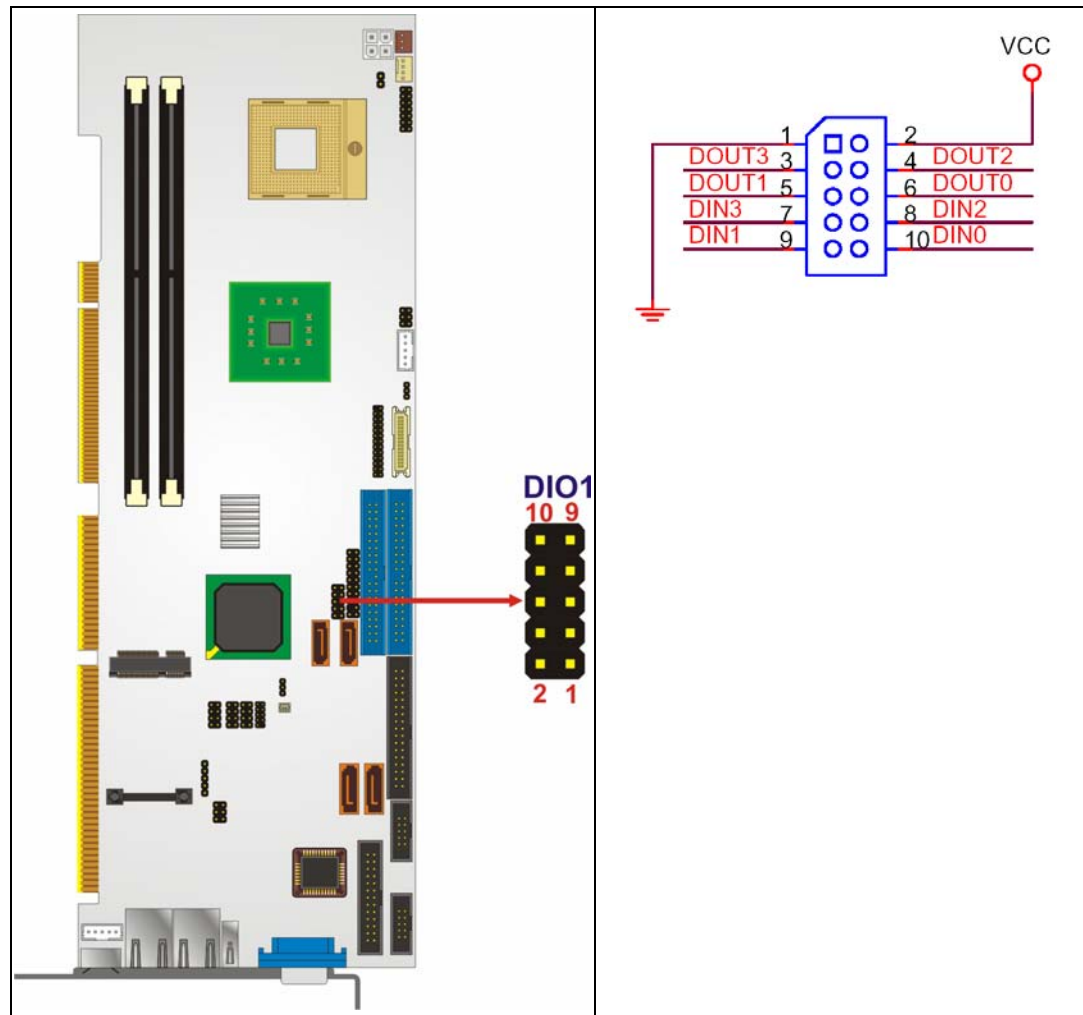

Figure 4-6: DIO Connector Location
- CN Location:** See Figure 4-6